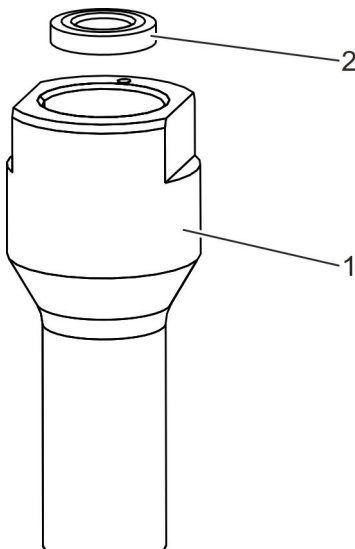

Fig. 22: Removing the pressure ring
9. ➤ Remove the pressure ring (Fig. 22/2) from the pipe nozzle (Fig. 22/1).